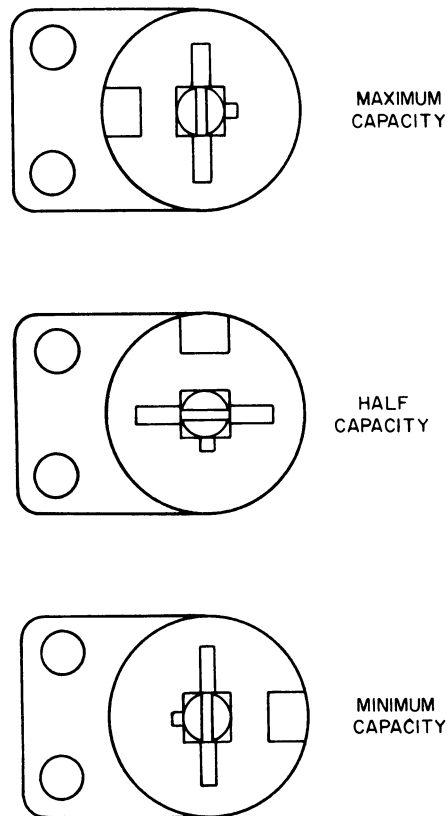

Figure 4-4. Trimmer Capacitor Settings
- e. Set C113, C117, and C120 to half capacity. See figure 4-4.